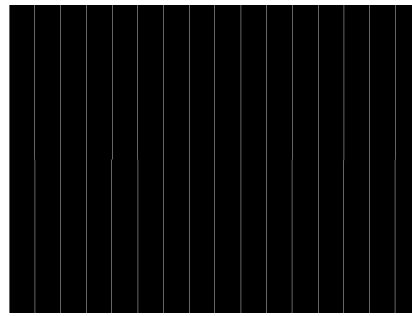

Figure 8. Example of Vertical Lines Test Pattern
11. As noted in Table 4, the colors for the vertical lines pattern are specified using both the foreground and background colors. The foreground color is used for the vertical lines, and the background color is used for the space between the lines. As noted in Table 5, the user specifies the foreground line width, as well as the background line width. The user must determine the line spacing for each resolution display. For example, if the foreground line width = 1, and the background line width = 9, there would be a single pixel vertical line on every tenth line. An example of a vertical lines pattern is shown in Figure 8.